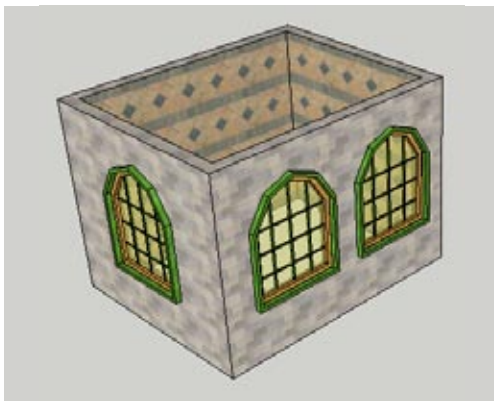

Figure 7-50
13. Explode each window and push the cutting face from the front face of the wall to the back face of the wall. You can use Push/Pull on the cutting face even though it appears behind the window face. You can now see through the walls, into the room (Figure 7-50).